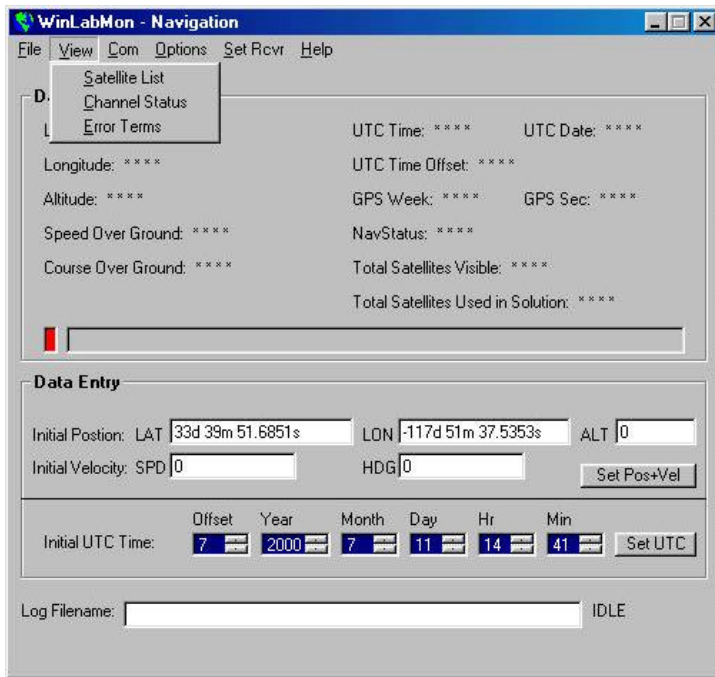
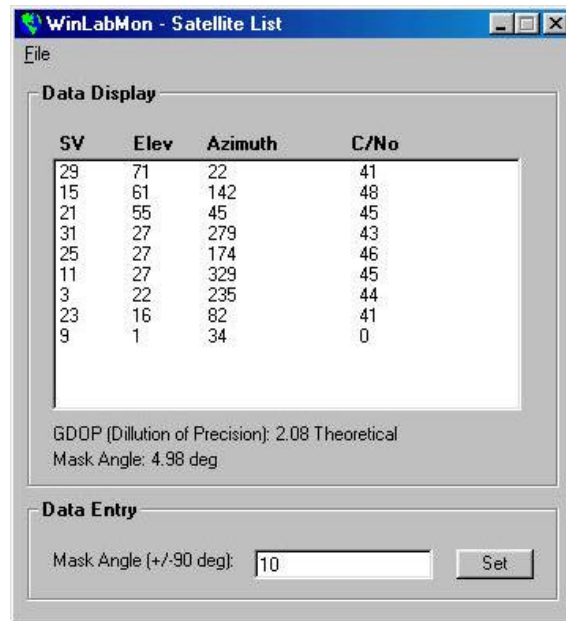

Figure 9.
Figure 10.
Figure 9 shows the windows “Satellite List”, “Channel Status” and “Error Conditions”. These windows contain data only when the GPS receiver and WinLabMon are in the active running mode. The “Satellite List” will show which satellites vehicles (SV) are being received, their elevation and azimuth positions and their respective signal levels. Also, this screen is used to set the antenna mask angle (specific conditions of the installation). See figure 10. The mask angle can be used for conditions where the antenna cannot be used to view satellites below certain levels of elevation such as obstructions like buildings, trees, etc.